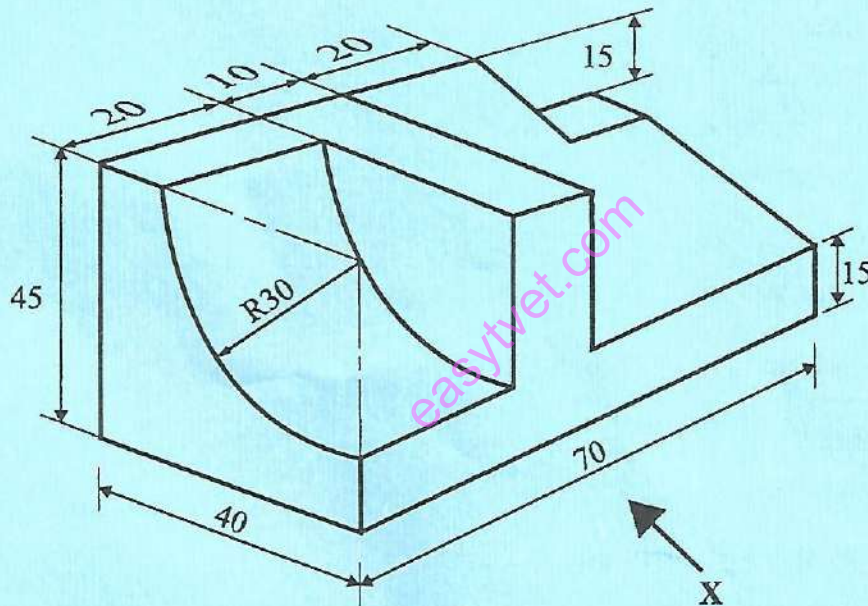

Fig. 1
5. Figure 1 shows a pictorial view of an object. Draw the following views in first angle orthographic projection: